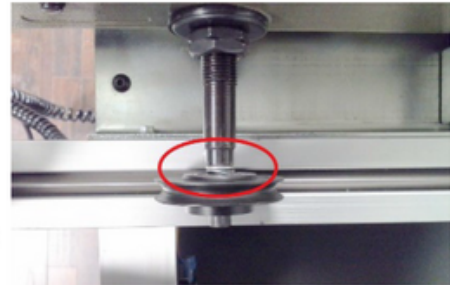

Fig. 4
- Most, if not all of the shims should be installed on the left side of the head to give the channel lock magnet more clearance (if such a magnet is installed) (Fig. 4).